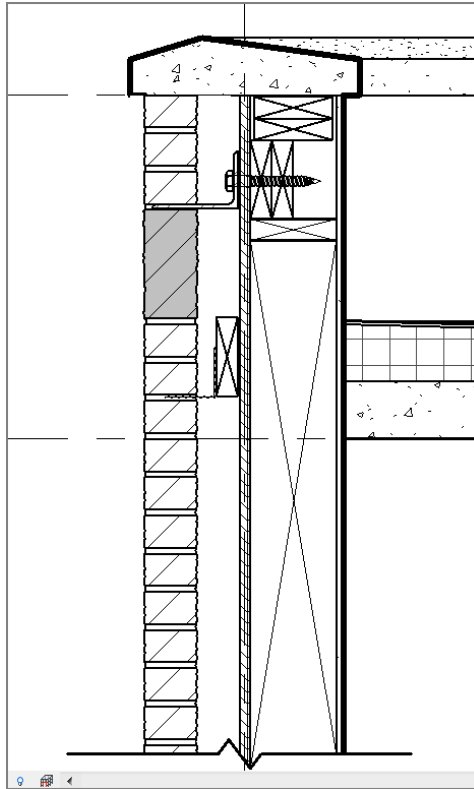

FIGURE 12.46: Adding the detail to indicate studs and plates by using detail lines
12. Draw the X for the blocking, as shown in Figure 12.46.
13. Copy the blocking down to form a double plate (see Figure 12.46).
14. Draw another X below the plates to indicate a stud (again, see Figure 12.46).